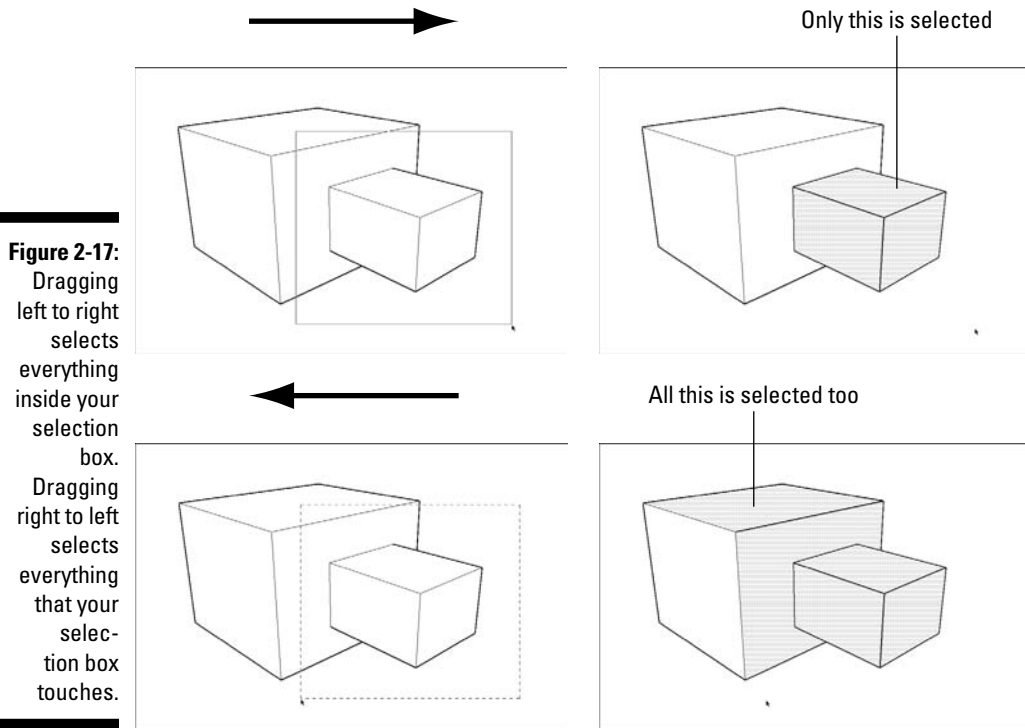

Figure 2-17: Dragging left to right selects everything inside your selection box. Dragging right to left selects everything that your selection box touches.
- ✔ **You can also select several things at once by dragging a box around them.** You have two kinds of selection boxes; which one you use depends on what you're trying to select (see Figure 2-17):